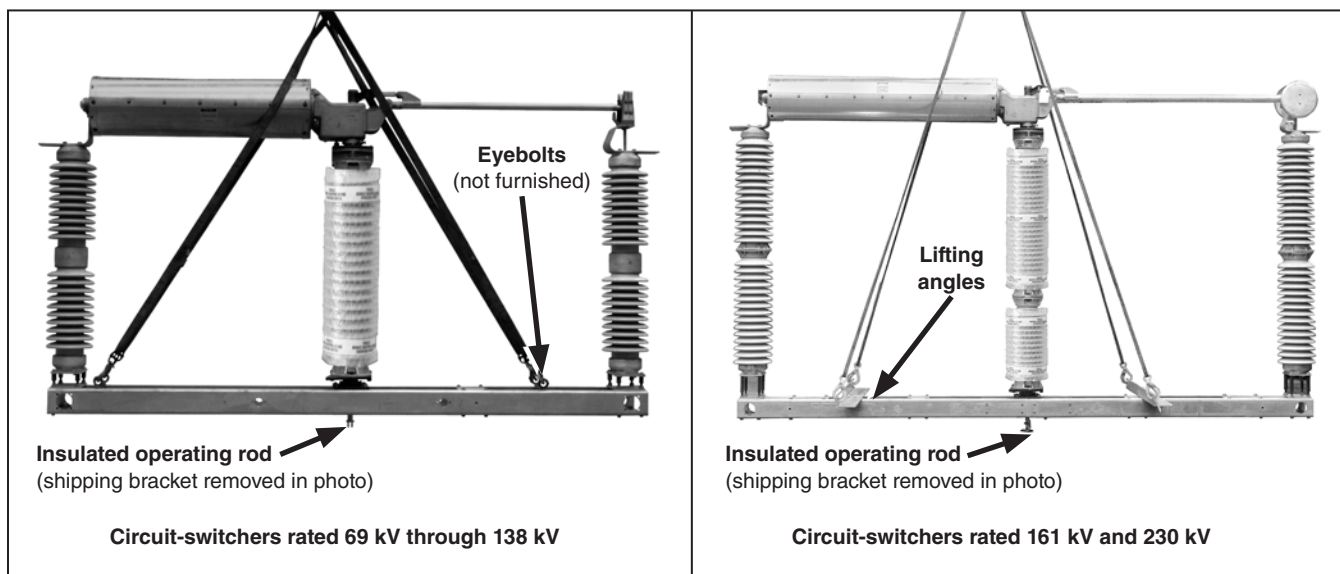

Figure 11. Hoisting the pole-unit.
STEP 2. For circuit-switchers rated 69 kV through 138 kV: Attach four suitable lifting slings to the channel base of the pole-unit that will be mounted at the center of the high-speed base—marked “Pole 2”—as shown in Figure 11 (left). (“Pole 2” is positioned outboard on the shipping skid for ease in handling.)
For circuit-switchers rated 161 kV and 230 kV: Attach the lifting angles retained from the “Before Starting” section on page 11 to the channel base of the pole-unit that will be mounted at the center of the high-speed base, marked “Pole 2,” using $\frac{1}{2}$ —13×1 $\frac{3}{4}$ -inch hex-head galvanized steel cap screws, flat washers, and hex nuts furnished. See Figure 11 (right). Securely tighten the cap screws. (“Pole 2” is positioned outboard on the shipping skid for ease in handling.) Then, attach four suitable lifting slings, 10 to 12 feet (305 to 366 cm) long for circuit-switchers rated 161 kV, and 12 to 14 feet (366 to 427 cm) long for circuit-switchers rated 230 kV) to the lifting angles.